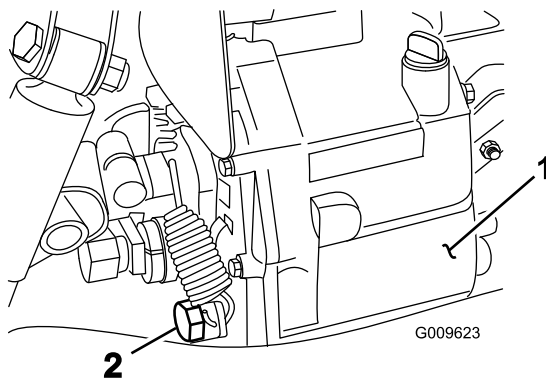

Figure 69
4. Remove the drain plug from the side of the reservoir, and let the hydraulic fluid flow into a drain pan (Figure 69).